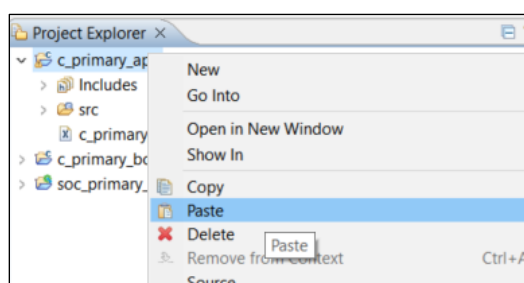

Figure 8.19. Paste in FreeRTOS C project
20. Paste it in your main c_primary_app project as shown in Figure 8.19.